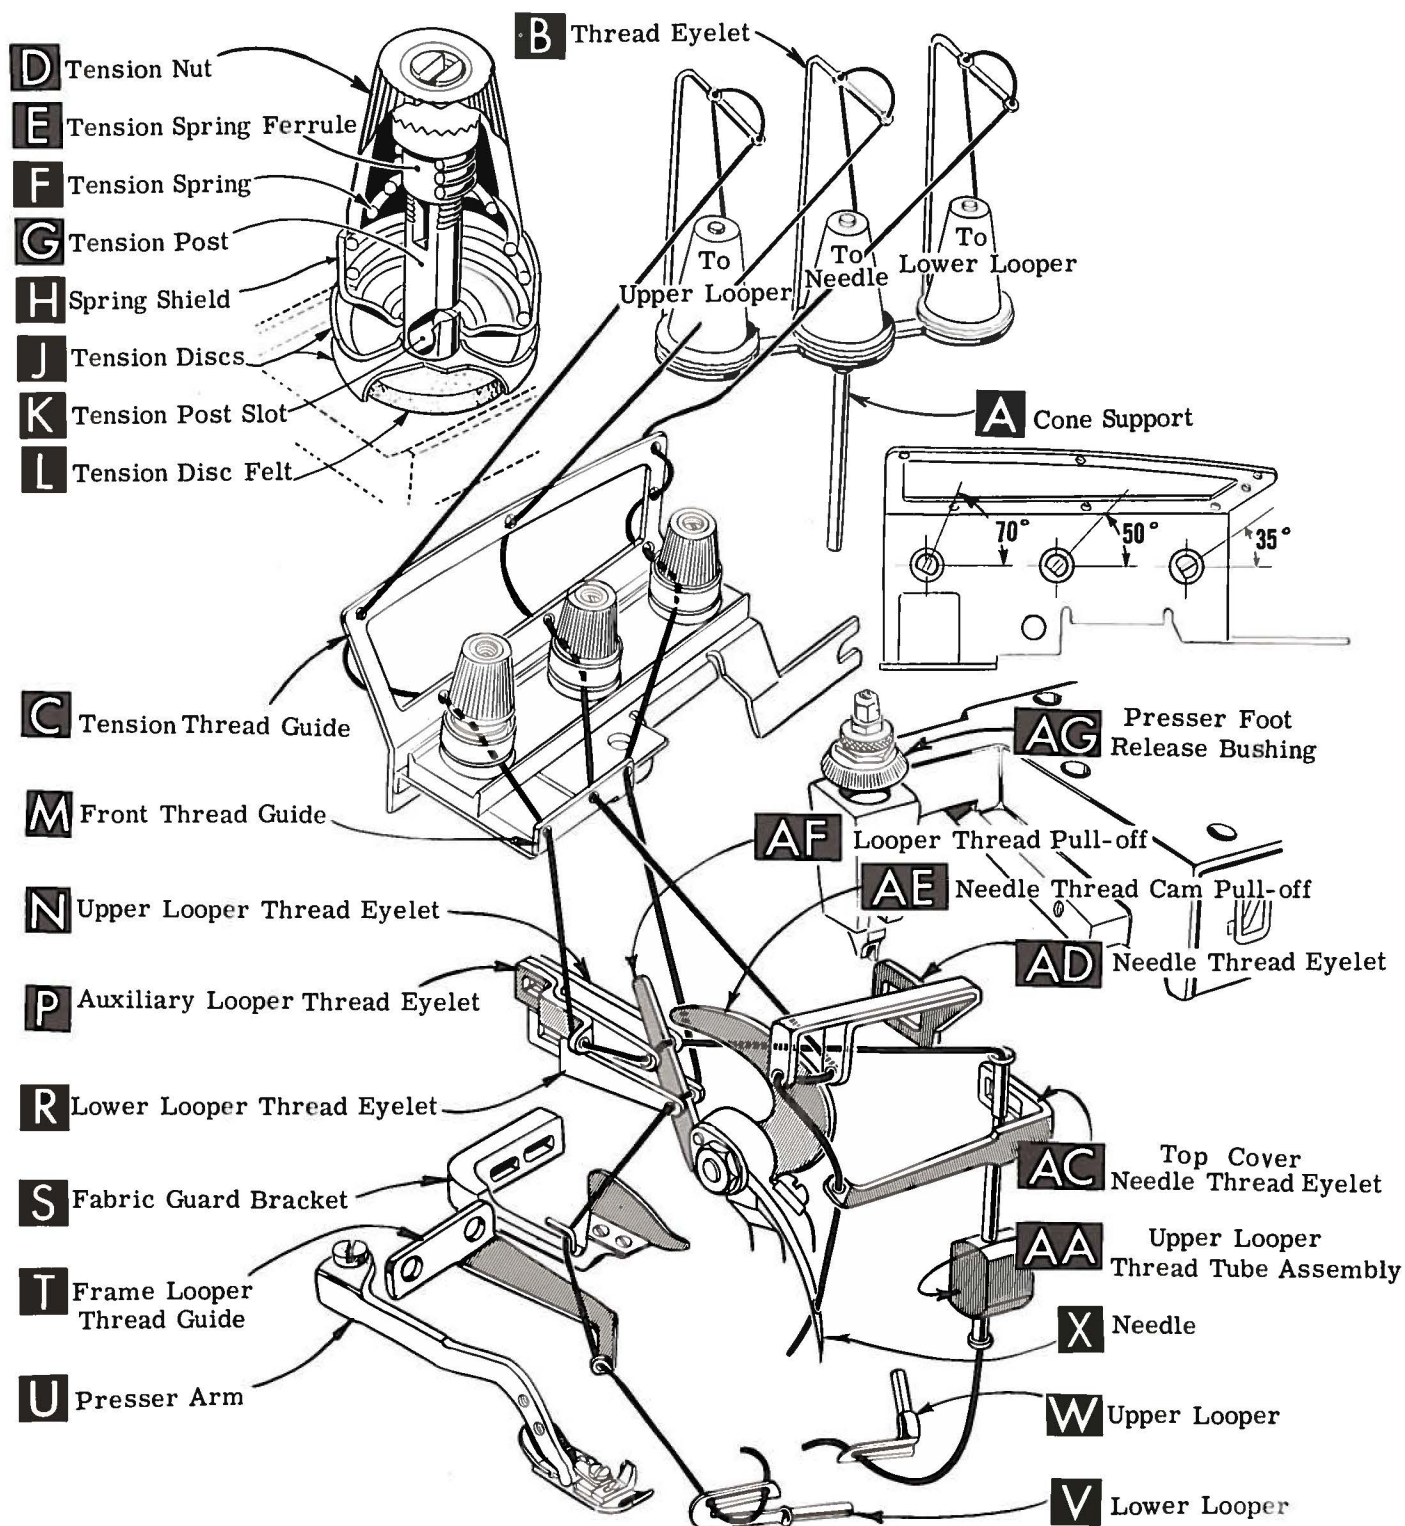

Fig. 1
Release pressure on presser foot by turning presser foot release bushing (AG) Fig. 1) and swing presser arm (U) out of position. Turn handwheel in operating direction until needle is at its lowest point of travel. Using hexagonal socket wrench No. 21388 AU, furnished with machine, loosen needle clamp nut about 1/4 turn. Again turn handwheel until needle is at high position; withdraw needle.
After thread comes from cones on cone support (A, Fig. 1), it is brought up through back hole of thread eyelet (B), then down through the front hole of thread eyelet. Next it is threaded through the upper holes of tension thread guide (C) from front to back and then through the lower holes from back to front. It should be noted that the lower looper thread is threaded through the tension thread guide (C), first through the upper hole back to front, second through the middle hole front to back and third through the lower hole back to front. All threads then continue between the tension discs (J), through tension post slot (K) in tension post (G) and on through front thread guide (M).
Only parts involved in threading are shown in threading diagram (Fig. 1). Parts are placed in their relative positions for clarity.
Double end of thread and lead it through both eyes of lower looper thread eyelet (R, Fig. 1) from right to left. Note: thread must pass in front of looper thread pull-off (AF). Lead thread behind fabric guard (S) and through eyelet hole of frame looper thread guide (T). Turn handwheel in operating direction until heel of lower looper (V) is all the way to the left; then thread through both eyes from left to right. Left eye of lower looper can be threaded easily if tweezers are in left hand.
Turn handwheel in operating direction until needle (X, Fig. 1) is at its highest position. Insert needle thread from right to left, through both eyes of needle thread eyelet (AD), under neck of top cover casting; then down through hole in top cover needle thread eyelet (AC). Thread needle from front.
The amount of tension of needle and looper threads is regulated by three knurled tension nuts (D, Fig. 1). Tension on threads should be only enough to secure proper stitch formation.
Be sure machine is threaded according to threading diagram (Fig. 1, page 6). With thread tensions light, set looper thread eyelets (N and R) about horizontal and in the middle of their front to back locations. Operate machine slowly, without presser foot in place, to make sure that chain forms and moves off the tongue freely. Swing presser foot into position, insert material, and sew slowly.
While sewing on material, check needle thread control as follows: Usually all needle thread is drawn on needle down stroke. At top of needle stroke, thread should be just tight enough to feed chain off stitch tongue. Stitch tends to pull down slightly if excessive thread is pulled on the up stroke. With needle at bottom of stroke, position needle thread eyelet (AD, Fig. 1) so that needle thread cam pull-off (AE) just contacts needle thread.
With material under presser foot, set lower looper thread eyelet (R, Fig. 1) back far enough so thread is a little slack when looper thread pull-off (AF) reaches its most rearward position. Looper thread pull-off (AF) is set about 1/8 inch distance behind needle thread cam pull-off (AE). Frame looper thread guide (T) should be set with its eyelet approximately 1/8 inch to right of lower looper (V) heel eyelet at the time lower looper is at extreme left end of its travel.
Before proceeding to adjust upper looper thread eyelet (N, Fig. 1) balance all three tensions to give a normal appearing stitch. Moderate change in these tensions will not markedly effect the purl.
To move the purl more under the edge, both looper thread eyelets (N and R, Fig. 1) should be raised, keeping the same amount of pull-off. Usually it is better to have slightly more pull-off upper thread than on lower thread.